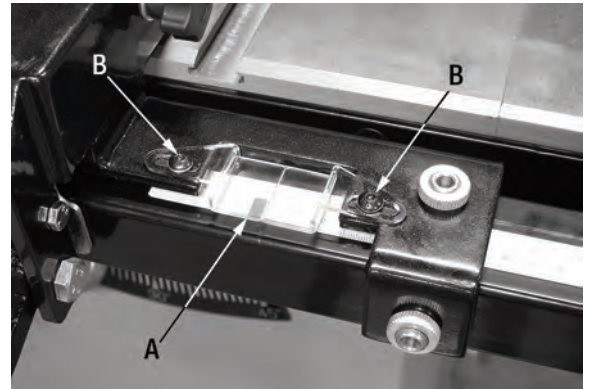

FIGURE 8
Position rip fence on the table and the front and rear rails. Slide the fence against the saw blade. Place the measuring tape on the tube (A) Fig.7 under the pointer window (A) Fig.8. The pointer window contains 2 small lines which represent the thickness of the blade kerf, line up the zero mark of the measuring tape underneath the line on the left side. Make sure the measuring tape is positioned perfectly parallel to the tube and that the measurements are clearly visible.
Remove the fence. Peel away a small portion at a time of the measuring tape backing and carefully apply it to the tube. We suggest taking your time during this installation, if a mistake is made and the zero mark does not align perfectly, you can loosen the pointer window screws (B) Fig.8, reposition the pointer window in the correct position and retighten the screws.